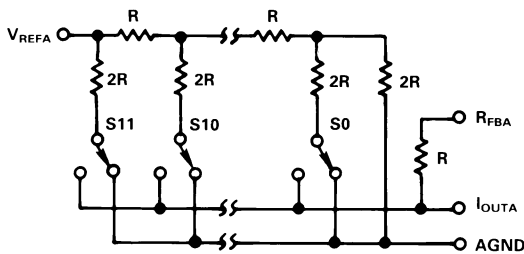
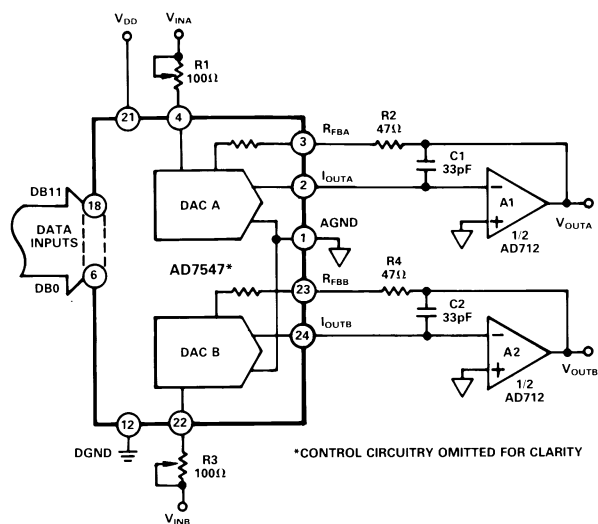
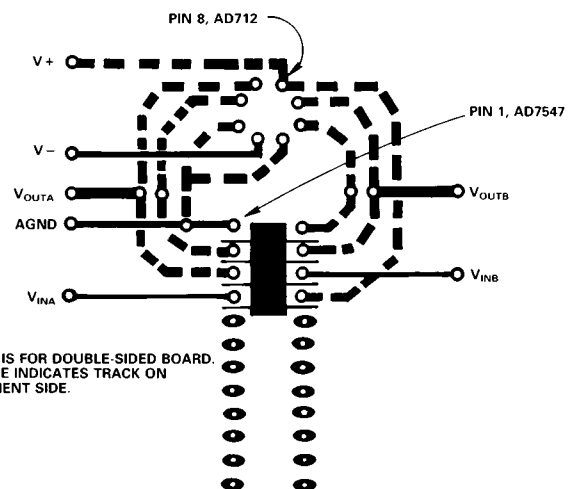

Figure 2. Simplified Circuit Diagram for DACA
Figure 4. AD7547 Unipolar Binary Operation
Figure 10. Suggested Layout for Circuit of Figure 4
The AD7547 contains two identical 12-bit multiplying D/A converters. Each DAC consists of a highly stable R-2R ladder and 12 N-channel current steering switches. Figure 2 shows a simplified D/A circuit for DAC A. In the R-2R ladder, binary weighted currents are steered between IOUTA and AGND. The current flowing in each ladder leg is constant, irrespective of switch state. The feedback resistor RFBA is used with an op-amp (see Figures 4 and 5) to convert the current flowing in IOUTA to a voltage output.
Figure 4 shows the circuit diagram for unipolar binary operation. With an ac input, the circuit performs 2-quadrant multiplication. The code table for Figure 4 is given in Table II.
Table II. Unipolar Binary Code Table for Circuit of Figure 4
**Output Offset:** CMOS D/A converters in circuits such as Figures 4 and 5 exhibit a code dependent output resistance which in turn can cause a code dependent error voltage at the output of the amplifier. The maximum amplitude of this error, which adds to the D/A converter nonlinearity, depends on  $V_{OS}$ , where  $V_{OS}$  is the amplifier input offset voltage. To maintain specified operation, it is recommended that  $V_{OS}$  be no greater than  $(25 \times 10^{-6})(V_{REF})$  over the temperature range of operation. Suitable op amps are the AD711C and its dual version, the AD712C. These op amps have a wide bandwidth and high slew rate and are recommended for wide bandwidth ac applications. AD711/AD712 settling time to 0.01% is typically 1 $\mu$ s.
**Temperature Coefficients:** The gain temperature coefficient of the AD7547 has a maximum value of 5ppm/ $^{\circ}C$  and typical value of 1ppm/ $^{\circ}C$ . This corresponds to worst case gain shifts of 2LSBs and 0.4LSBs respectively over a 100 $^{\circ}C$  temperature range. When trim resistors R1(R3) and R2(R4) are used to adjust full-scale range as in Figure 4, the temperature coefficient of R1(R3) and R2(R4) should also be taken into account. For further information see "Gain Error and Gain Temperature Coefficient of CMOS Multiplying DACs", Application Note, Publication Number E630c-5-3/86 available from Analog Devices.
**High Frequency Considerations:** AD7547 output capacitance works in conjunction with the amplifier feedback resistance to add a pole to the open loop response. This can cause ringing or oscillation. Stability can be restored by adding a phase compensation capacitor in parallel with the feedback resistor. This is shown as C1 and C2 in Figures 4 and 5.
**Feedthrough:** The dynamic performance of the AD7547 depends upon the gain and phase stability of the output amplifier, together with the optimum choice of PC board layout and decoupling components. A suggested printed circuit layout for Figure 4 is shown in Figure 10 which minimizes feedthrough from  $V_{REFA}$ ,  $V_{REFB}$  to the output in multiplying applications.